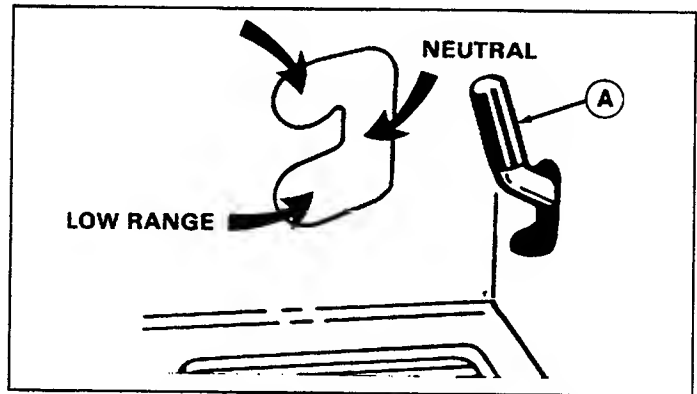

Figure 9. Two-Speed Axle Shift (20 HP Models)
1. The axle shift lever (figure 9) is designed to fit very flush with the rear foot deck panel to avoid accidental shifting. Select low speed (bottom position) for heavy work or high speed (upper position) for traveling to work areas.
1. Set the axle shift lever (figure 9) to the neutral position.